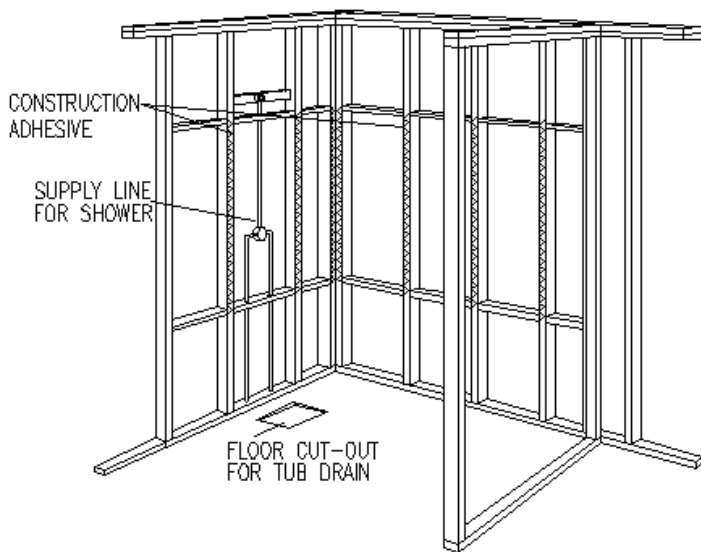

Fig. 3
- Apply a 3/8" bead of construction adhesive to all the studs that will be covered with the wall set. Once walls are in place, fill in any gaps between the stud and the wall with construction adhesive. (Fig. 3) We recommend covering the installed tub with plastic or a drop cloth to protect it from any spilled adhesive.